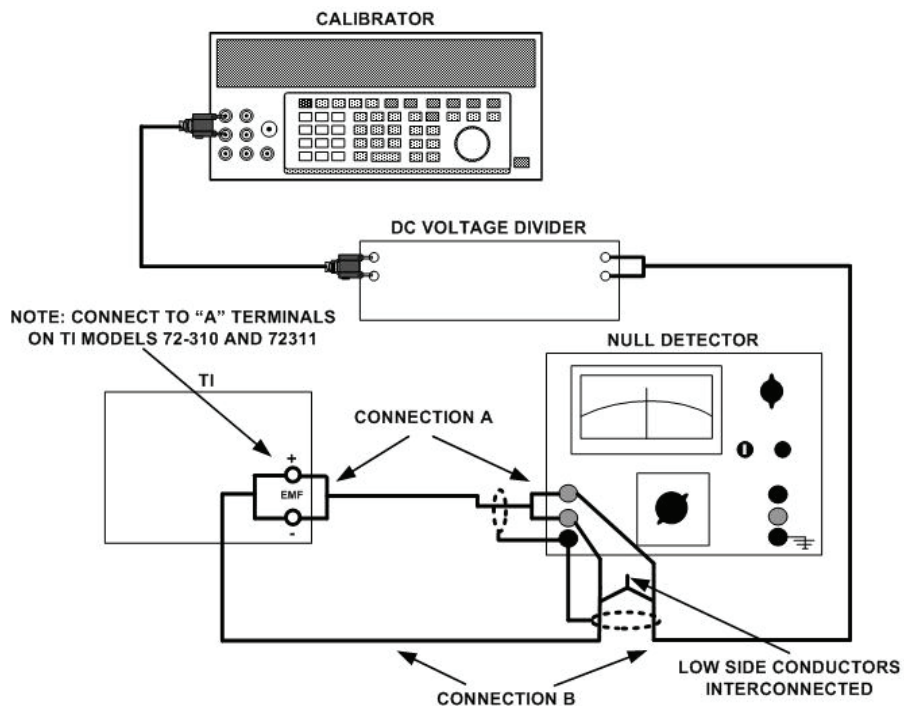

Figure 1. Output accuracy - equipment setup.
d. Connect equipment as shown in figure 1, connection A.
- (4) Turn **FUNCTION** switch to **OUTPUT 1**. Null detector will indicate between 0 and 50  $\mu$ V.
- (5) Connect equipment as shown in figure 1, connection B.
- (6) Set dc voltage divider controls to **.100000**.
- (7) Set **MILLIVOLTS** switch to **20** and adjust calibrator for **0.20000 V**.
- (8) While increasing sensitivity of null detector, readjust output of calibrator to obtain best null on null detector. Output of calibrator will be between 0.1994 and 0.2006 V.
- (9) Repeat technique of (7) and (8) above, using values in tables 3. Calibrator output will be within limits specified.
- (4) Connect equipment as shown in figure 1, connection A.
- (5) Turn **FUNCTION** switch to **COMP SET** and **COMP** switch to **ON**. Adjust **COMP** control for null indication on TI galvanometer. Turn **COMP** switch to **OFF**.
- (6) Turn **FUNCTION** switch to **OUTPUT X1**. Null detector will be between 0 and 20  $\mu$ V.
- (7) Connect equipment as shown in figure 1, connection B.
- (8) Repeat (5) above.
- (9) Set dc voltage divider controls to **.1000000**.
- (10) Adjust output of calibrator to **0.10000 V** and set **MILLIVOLT** switch to **10**.
- (11) Readjust calibrator to obtain best null on null detector. Calibrator will indicate between 0.09975 and 0.10025 V.
- (12) Repeat technique of (10) and (11) above, using values listed in table 4. Calibrator output will be within limits specified.